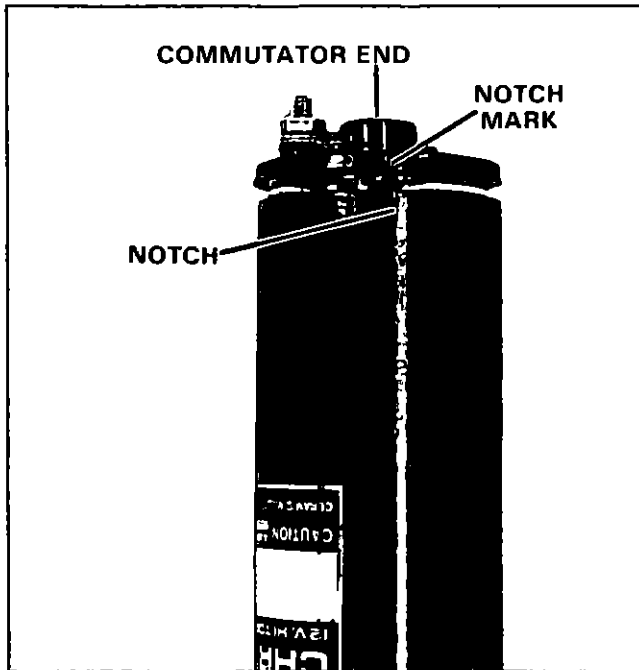

Figure 58. Installing Commutator End Cap to Motor Body
- 5 Insert armature shaft (commutator end) into end cap bearing. Figure 58.